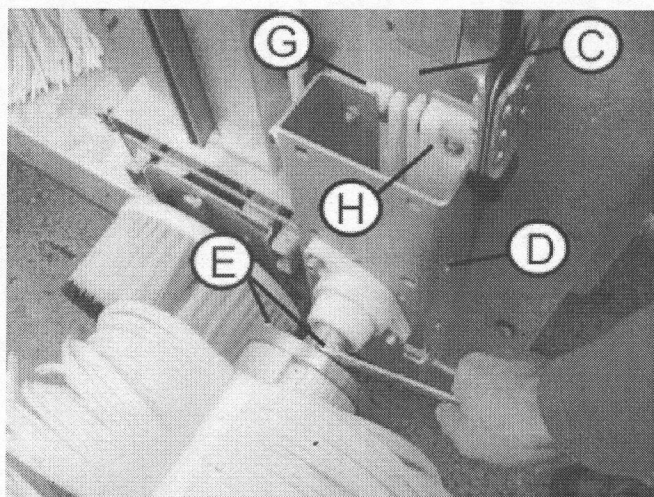

Fig. 047
4. Unscrew the lower guide rail (C) of the roof brush on side 2 (Fig. 047).
7. Loosen lifting belt by removing the stud (D) (Fig. 047).
8. Loosen connecting screws (E) of brush shaft and drive flange and remove complete unit (Fig. 047).
9. Dismantle sliding blocks (G) and (H) (Fig. 047).
13. Mount sliding blocks on running wagon. Make sure that the screws of the sliding block (H) are secured with removable assembly adhesive (Fig. 047).
15. Mount lifting belt with studs (D) (Fig. 047).
16. Adjust sliding block (G) and tighten, so that both sliding blocks are close to the running rail without any gap (Fig. 047).